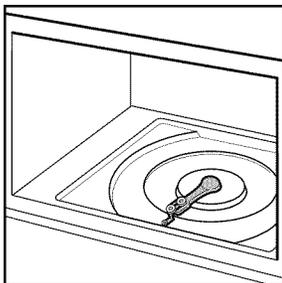

Figure 1
1. Place the guide tray on the oven cavity bottom. The rollers on the shaft should fit inside the guide tray bottom groove. (See Figures 1, 2-1, and 2-2)